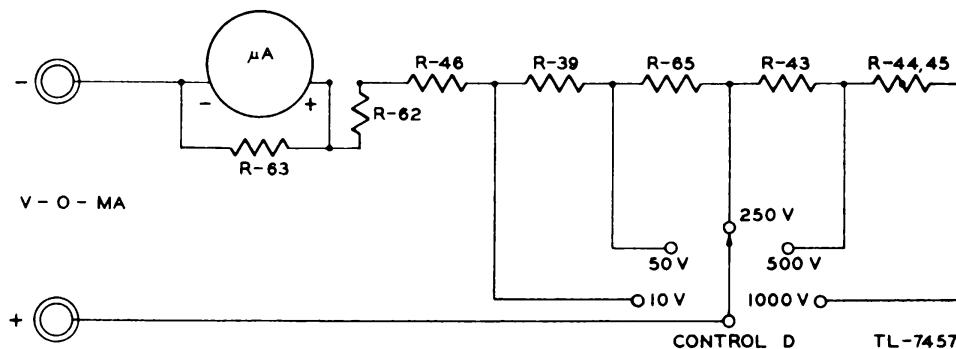

FIG. 16. MODEL 104 COMBINATION TESTER, SIMPLIFIED D-C VOLTMETER CIRCUIT
c. *Combination Tester as D-C Voltmeter* (fig. 16). With Control D set at any d-c voltage range, the correct multiplier resistors are placed in series with the indicating meter.